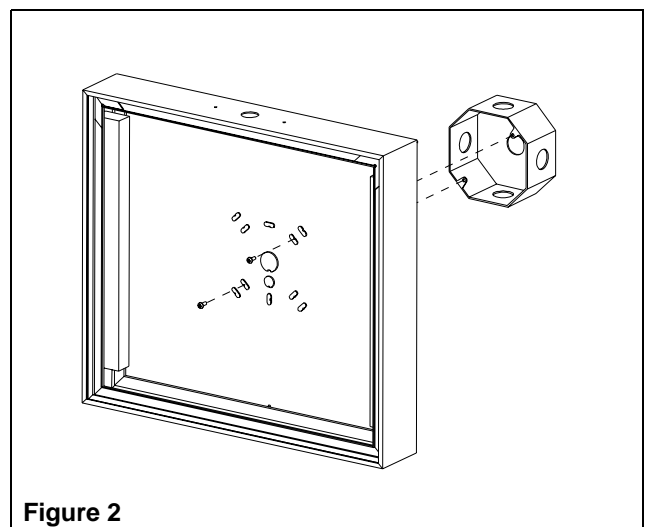

Figure 2
- c. Mount the exit sign securely to the junction box using the junction box screws (see fig. 2).